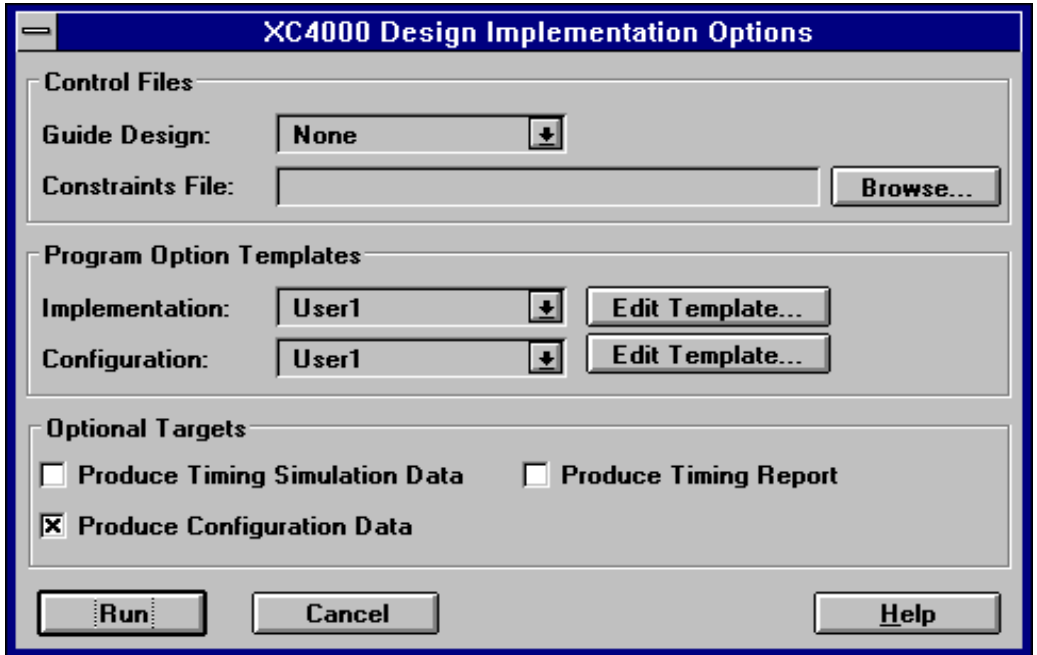

Figure 2-9 Design Implementation Options Dialog Box
2. The Design Implementation Options dialog box appears as shown in Figure 2-9.